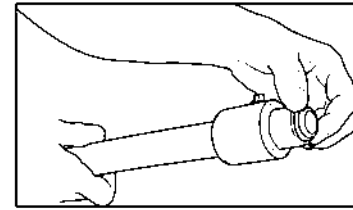

Figure: 4-53
7. Remove adapter and split rings from fitting. Attach adapter to equipment. Slip coupling and nut over end of pipe all the way to expose first corrugations of pipe. Insert split rings into first corrugation as shown. Figure: 4-53